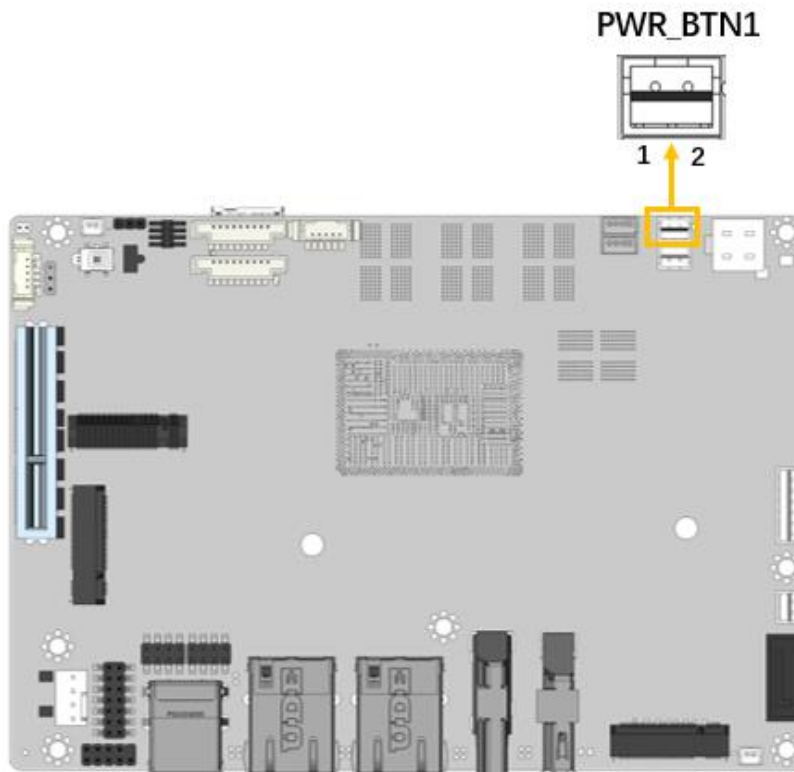

Figure 3-13: Power Button Connector Location
- CN Location:** See **Figure 3-13**